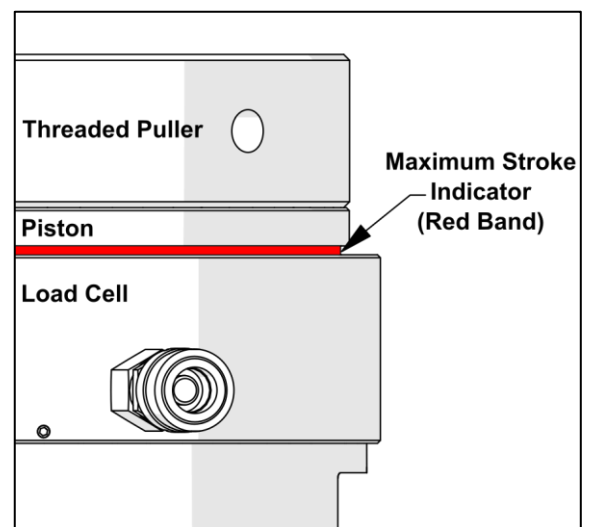

Figure 6.1 - Maximum Stroke Indicator
6.2 Maximum Stroke Indicator (Figure 6.1)